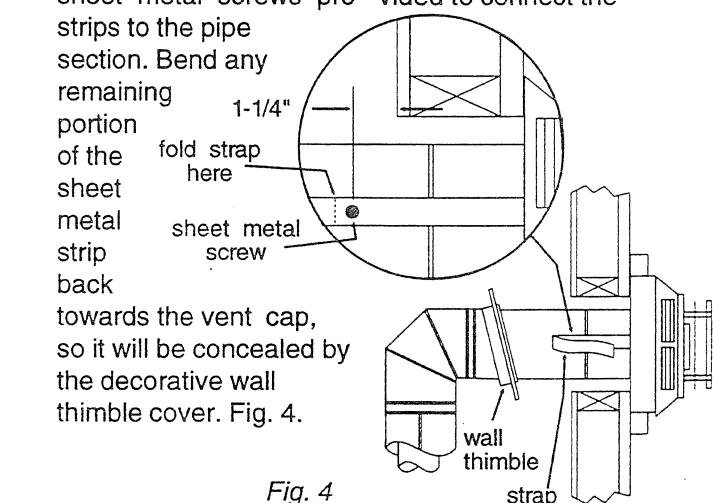

Fig. 4
6) Slide the appliance and vent assembly towards the wall carefully inserting the vent pipe into the vent cap assembly. It is important that the vent pipe extends into the vent cap sufficient distance so as to result in a minimum pipe overlap of 1-1/4 inches. Secure the connection between the vent pipe and the vent cap by attaching the two sheet metal strips extending from the vent cap assembly into the outer wall of the vent pipe. Use the two sheet metal screws provided to connect the strips to the pipe section. Bend any remaining portion of the sheet metal strip back towards the vent cap, so it will be concealed by the decorative wall thimble cover. Fig. 4.